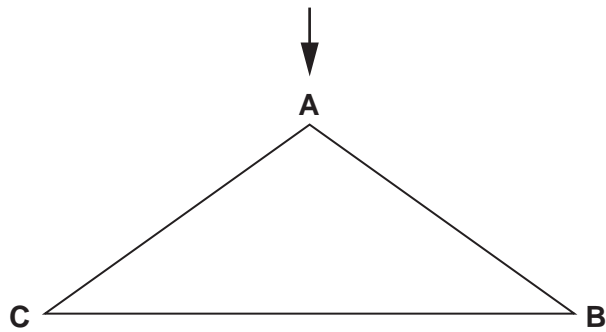

Fig. 3
- 4 (a) Fig. 3 shows a simple frame.